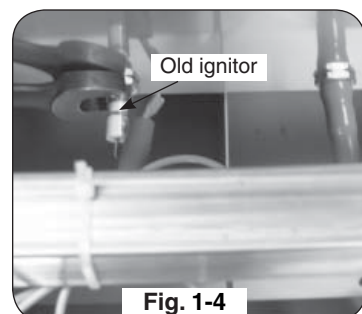
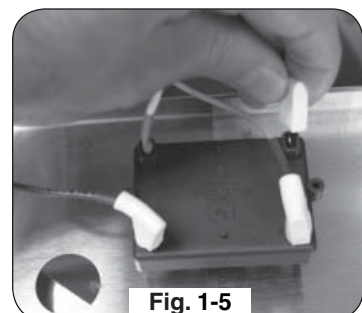

Fig. 1-4
Fig. 1-5
6. Remove the existing ignitor wire by first loosening the nut on the faceplate side of the fire wall with a wrench and then disconnecting the wire connector from the electrode and pulling the wire through the hole (see Fig. 1-4). Also remove the connector on the other end of the ignitor wire from the ignitor module (see Fig. 1-5).